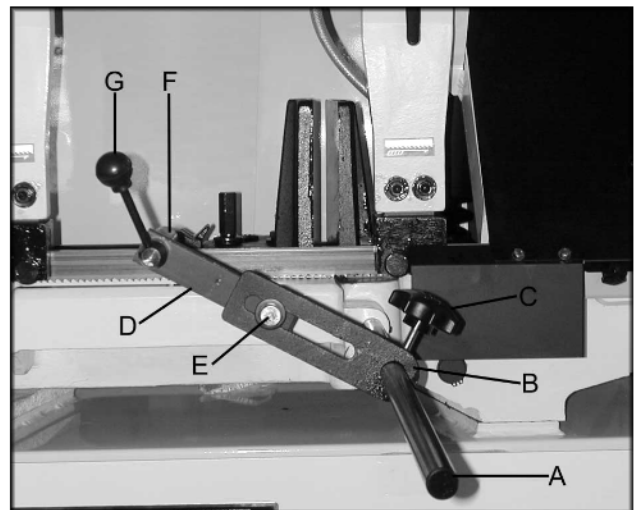

Fig. 2
1. Insert stop rod (A, Fig. 2) into the base below the vise. Place stop bracket (B, Fig. 2) onto stop rod and tighten lock knob (C, Fig. 2). Attach the connecting plate (D, Fig. 2) to stop bracket with hex cap bolt and washer (E, Fig. 2), and tighten. Attach the work stop (F, Fig. 2) to the connecting plate with lock handle (G, Fig. 2), and tighten.